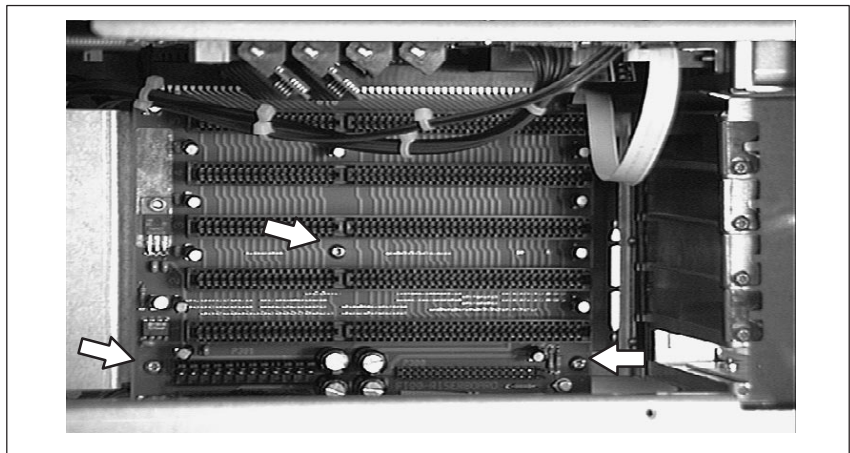

Figure 1-20 Removing the bus board
- Undo the three screws on the bus board as shown in figure 1-20.